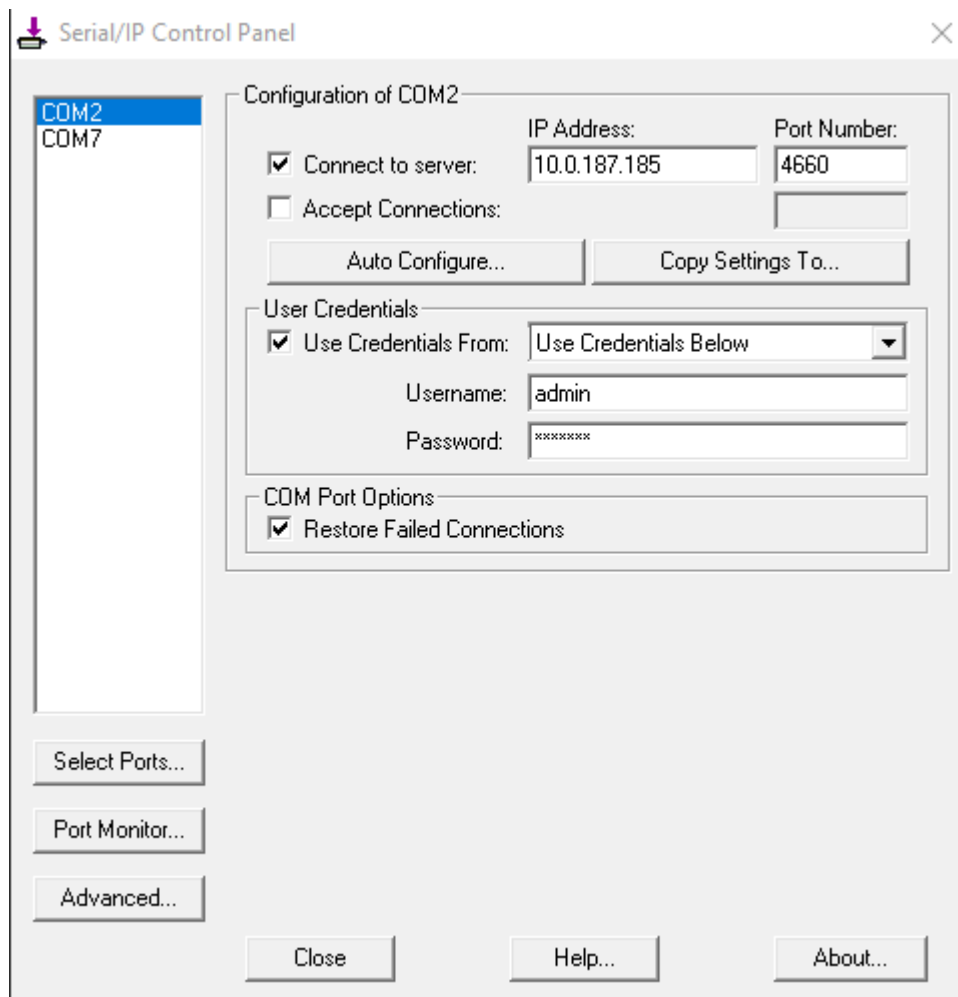

Figure 6.9 Configuring Virtual COM 2 Port as TCP Client
1. If the serial device server (i.e. SE5201) is running in **TCP Server Link Mode** (recommended), the **Serial/IP** utility on the host computer should be configured as the TCP client connecting to the serial device server. Enable **Connect to Server** option (by checking the box in front of it as shown in Figure 6.9) and enter the IP Address of the serial device server with the specified **Port Number**. The **Port Number** here is the **Local Listening Port** for the serial device server which is specified in the **Local Port** field of Figure 5.11.
Below option as shown in Figure 6.9, please specify the **Username** and the **Password** in their corresponding text boxes.
6. To transfer the settings between Virtual COM ports, click on the **Copy Settings To** button as shown in Figure 6.9.